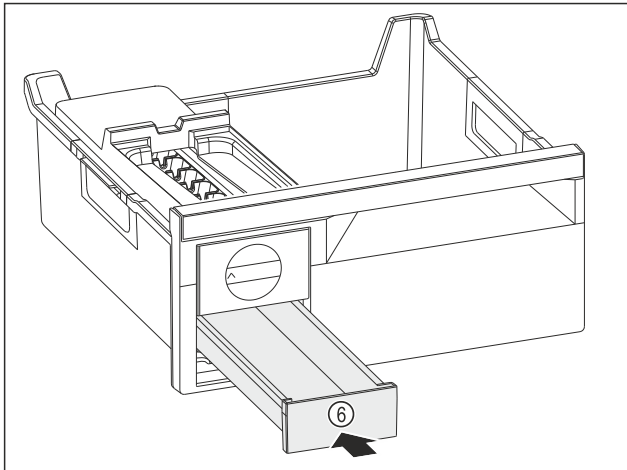

Fig. 91
- Insert the ice cube drawer Fig. 91 (6).